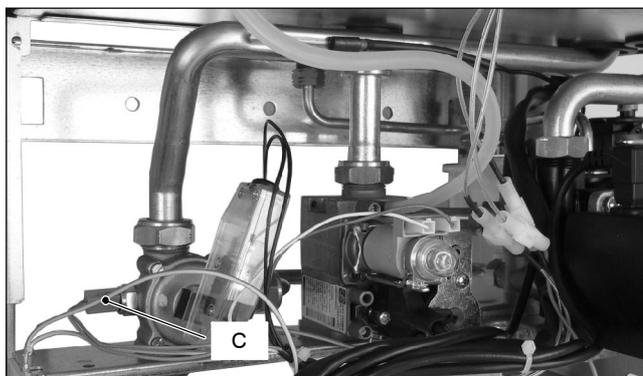
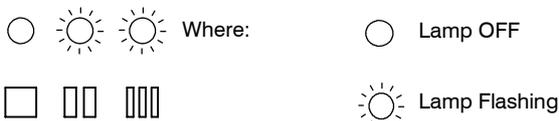
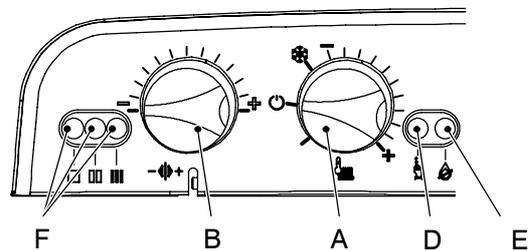

Fig. 6
Fig. 11
Fig. 12
- 5 Disconnect the electrical connectors C of the C.h. temperature probe NTC in Fig. 6
- 7 Connect the the elctrical connectors C of the C.h. temperature probe NTC in Fig. 6
- 3 Position the function selector A as in Fig. 12 and disconnect the C.h. temperature probe Fig. 6. Lamps F give the indication as in Fig. 11.
- 4 Keep pressed the reset button D for about 10 seconds (Fig. 12) until the lock-out signal lamp E blinks.